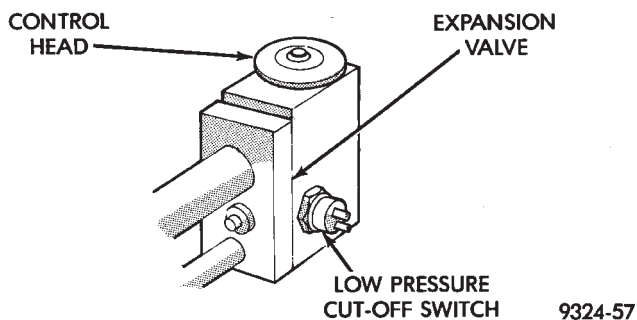

Fig. 2 Expansion Valve
(8) If suction side low pressure is within specified range, freeze the expansion valve control head (Fig. 2) for 30 seconds. Use a super cold substance (liquid CO₂). **Do not spray R-12 Refrigerant on the expansion valve for this test.** Suction side low pressure should drop to -50 kPa (-15 in. Hg) If not, replace expansion valve.